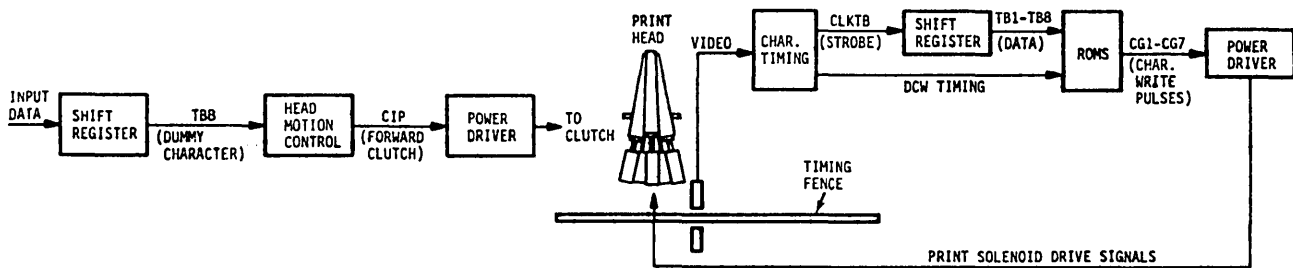

Figure 4-13. CHARACTER PRINTING BLOCK DIAGRAM
4.5 CHARACTER PRINTING (FIGURE 4-13)